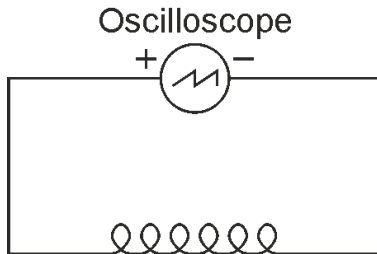

Figure 5: Oscilloscope connected across coil
**Exercise:** Before you construct the first circuit, we will first test your understanding of inductors. Connect your oscilloscope probe leads across the coil, as shown in Figure 5 below. Spin the rotor by hand – what do you see on the oscilloscope? *Hint: If you see nothing, then alter the time base and/or sensitivity of your oscilloscope until you do!*